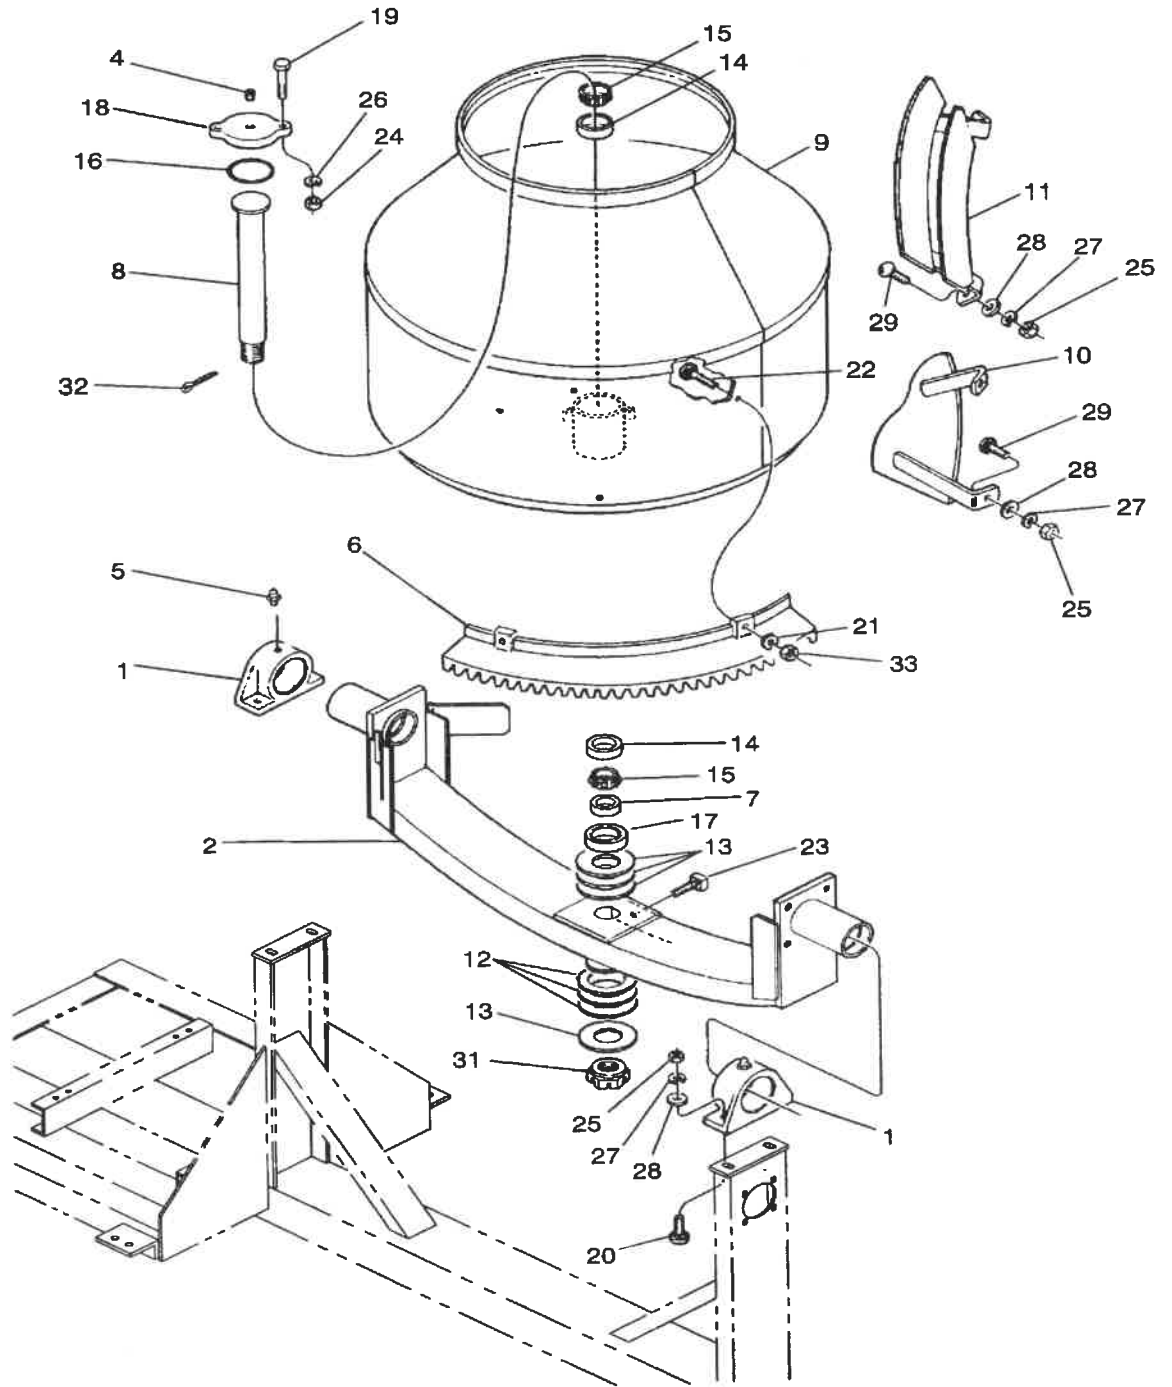

FIGURE 3
Drum shaft lubrication can be performed by removing the 1/8" pipe plug (item 4, fig3) and installing the appropriate grease fitting. Greasing should be done yearly.